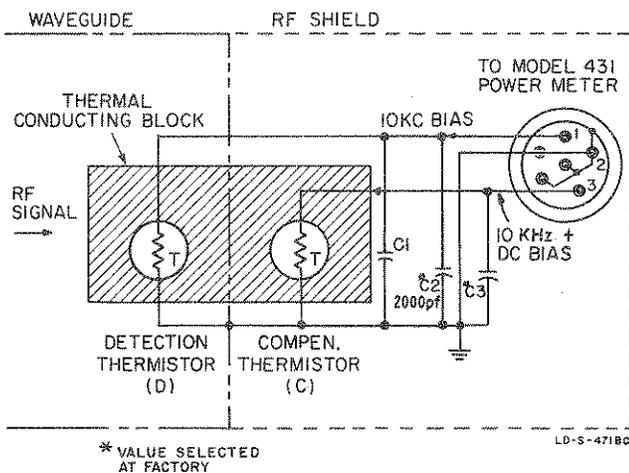

Figure 4. Thermistor Mount Schematic Diagram
45. The matched thermistor pair, C and D (C is used for thermal compensation, and D for RF detection), are mounted in an isolated common thermal environment represented by the shaded rectangle in Figure 4. Electrically, however, the thermistors are isolated from each other, D being mounted inside the waveguide and exposed to incoming RF, while C is entirely shielded from RF. A correct amount of 10-kHz bias is supplied through a cable from the Model 431 Power Meter to heat D to its operating resistance (100 ohms $\pm 1\%$ or 200 ohms $\pm 1\%$). An equal amount of 10-kHz bias, together with a DC bias, is supplied to heat C to the same operating resistance. As indicated in Figure 4, the total power applied to heat thermistor D consists of incoming RF, 10-kHz bias, and heat from the environment. The total heating power to compensating thermistor C consists of DC bias, 10-kHz bias, and the same environmental heat. As D and C are matched thermally, only equal amounts of heating power can bias them to equal operating resistances. Restating the foregoing algebraically: under normal operation